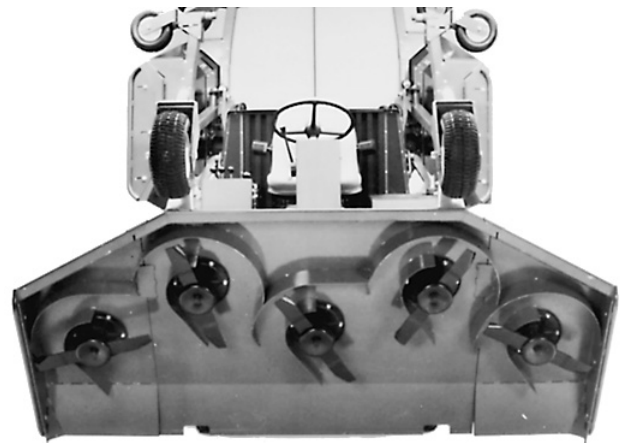

Figure 60
Note: Although not needed for normal maintenance procedures, the front cutting unit can be pivoted (tilted) to a fully upright position (Fig. 60). Should you desire to tilt the cutting unit, proceed as follows:
6. Use at least one other person to tilt the cutting unit. Grasp the front of the unit and lift it to an upright position (Fig. 60).